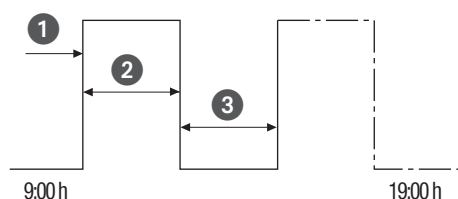

Fig. 26: Cycle switching
- (Fig. 26/①) Start time
- (Fig. 26/②) Period ON = switching ON
- (Fig. 26/③) Period OFF = switching OFF